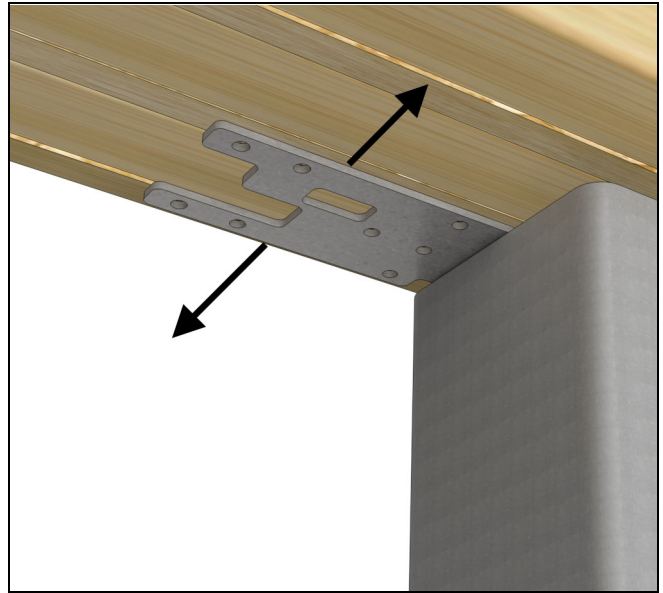
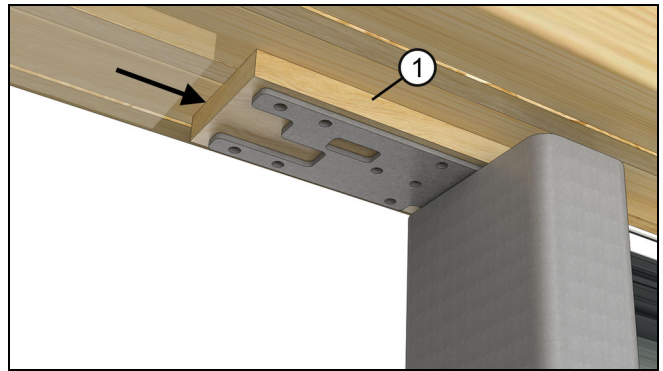

Figure 87
Figure 88
10. Adjust the top mull bracket and block/shim the bracket firmly against the RO and to seat the bracket in the hollow of the tube steel. Fasten the bracket with the supplied 3" screws. See Figure 87, Figure 88, and Figure 89.